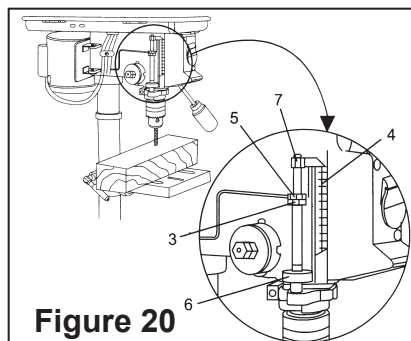

Figure 20
4. Spin the lower nut (3) down to contact the depth stop lug (6) on the head (Figure 20).
5. Spin the upper nut (5) down and tighten against the lower nut (3) (Figure 20).
#### Depth scale method (Figure 20)